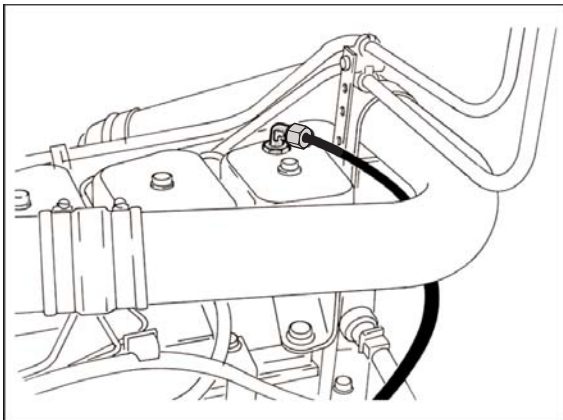

Figure 3.13 Connecting the PA filler tube
3. Replace the rocker cover and connect the filler tube (Figure 3.13).